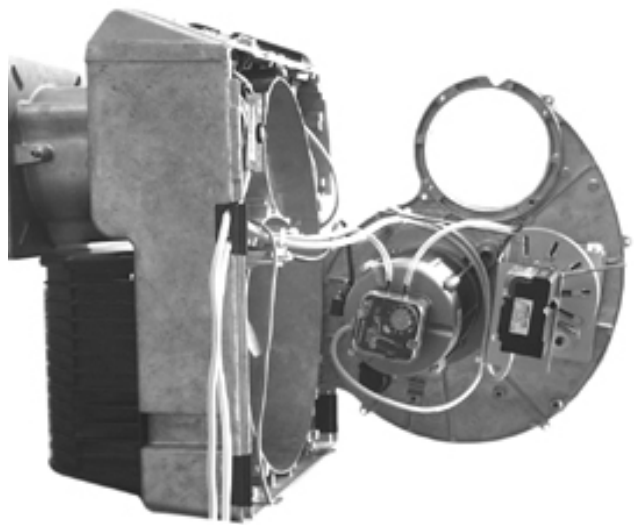

Fig. 28
- Hook the burner components plate as shown in Fig. 28.
- Reassemble the combustion head and tighten the 4 screws V1 - V4 (Fig. 28).